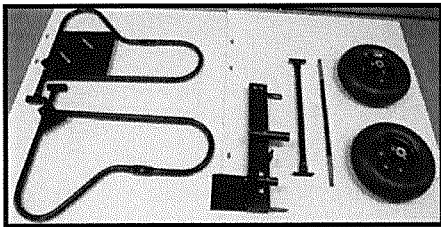

Fig.1: Parts required for frame assembly.
1. Sort through all the components and set aside pieces required for the frame (Fig.1)